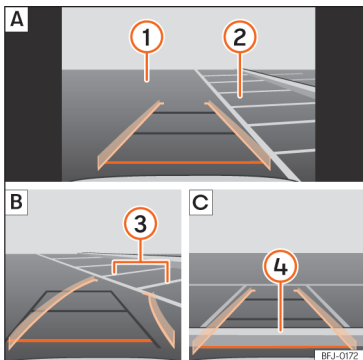

Fig. 155 Display on the infotainment system screen: parking with the reverse assistant.
Key to the >>> Fig. 155:
- Stop the vehicle in front of the parking space >>> Fig. 155 **2** **A**.